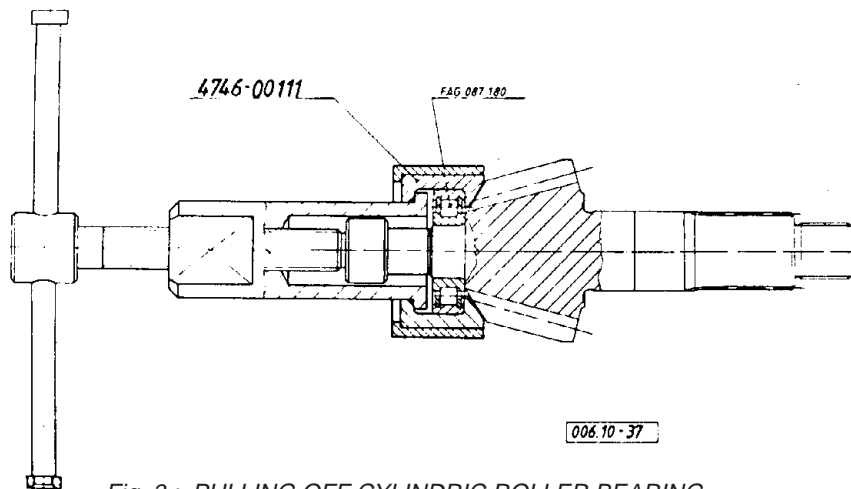

Fig. 3.: PULLING OFF CYLINDRIC ROLLER BEARING
By means of the device shown (Fig. 3.) pull the cylindric roller bearing (45) off the drive pinion.